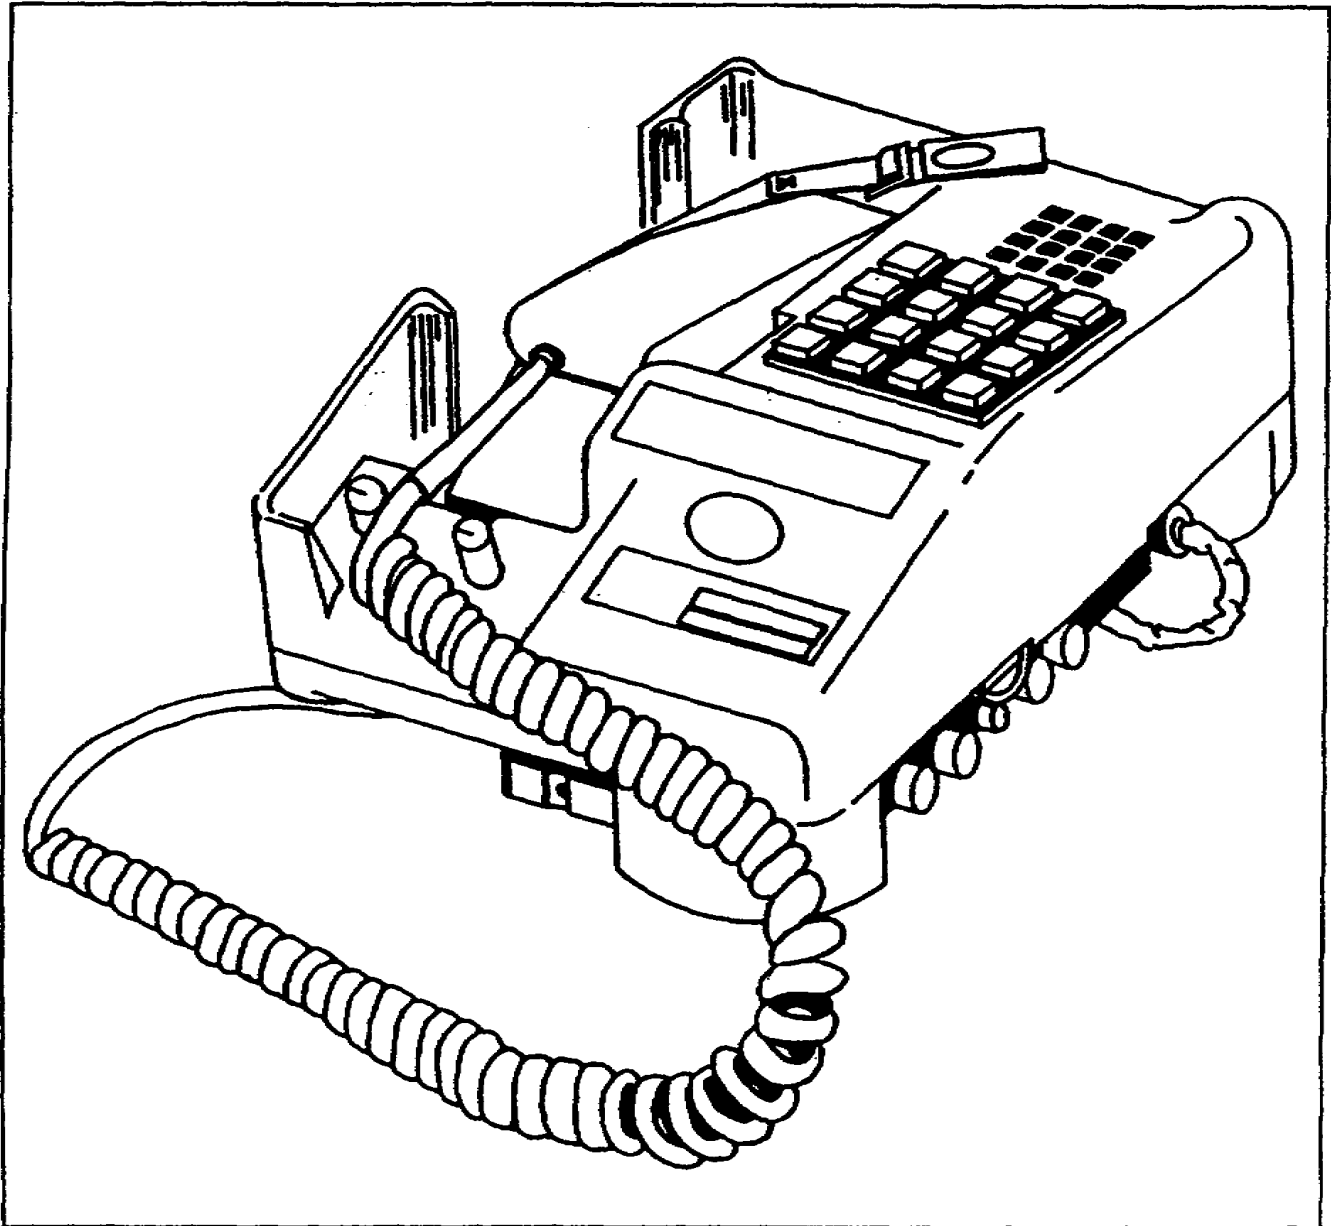

Figure 1-24. TA-1035/U telephone digital nonsecure voice.
40. This telephone is very similar to the TA-954/TT. As a prime subscriber terminal, the TA-1035/U provides full-duplex, conditioned diphase digital voice and loop signaling information with wire, and mobile access equipment. It also provides supervisory, clock, plain text, and voltage reference signals with data devices. The TA-1035/U provides a data port for interfacing the SST and AN/UXC-7 data devices to the MSE network. The TA-1035/U operates in a COMMON BATTERY power mode, deriving its power from the switch line termination circuit. (See Figure 1-24.)